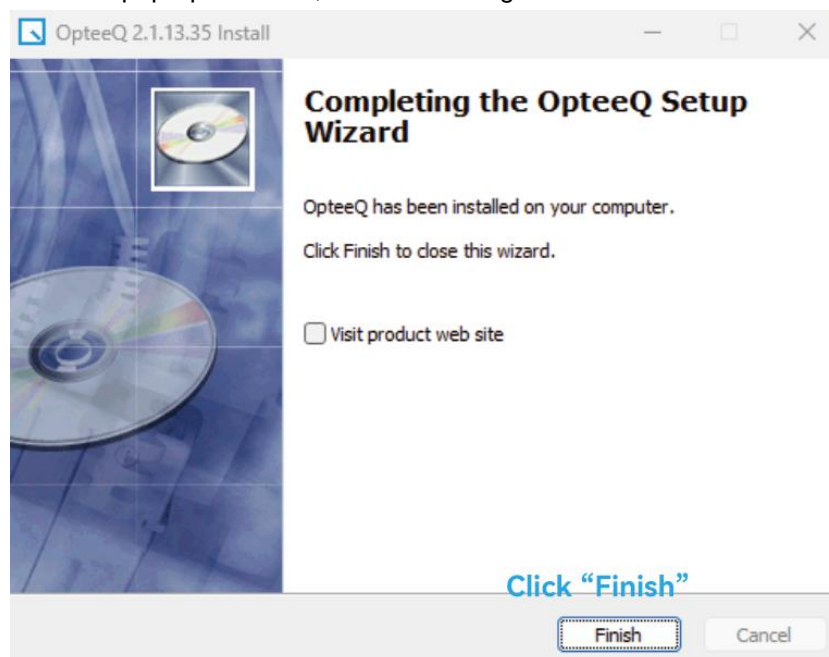

Figure 1.9 Step 9
Step 9: Click "Finish" in the pop-up interface, as shown in Figure 1.9.